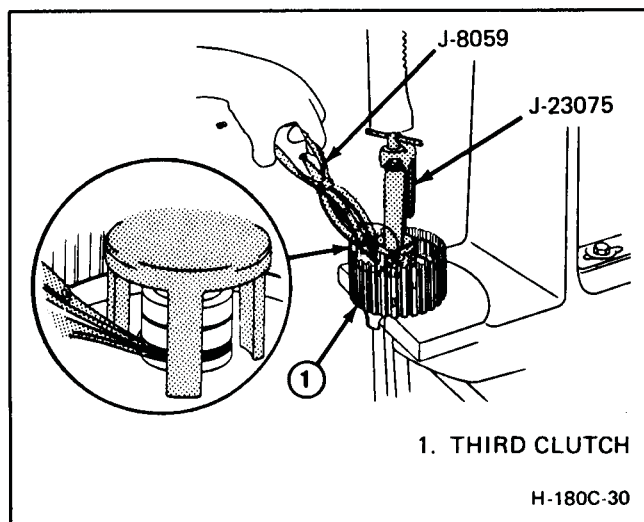

Figure 180C-44 Compressing Third Clutch Retainer
2. Install the (12) third clutch piston return springs onto the piston.
4. Use compressor tool J-23075 on the retaining seat and compress the piston return springs. Care must be taken so that the retaining seat does not catch in the snap ring groove and damage the retainer. See Figure 180C-44.